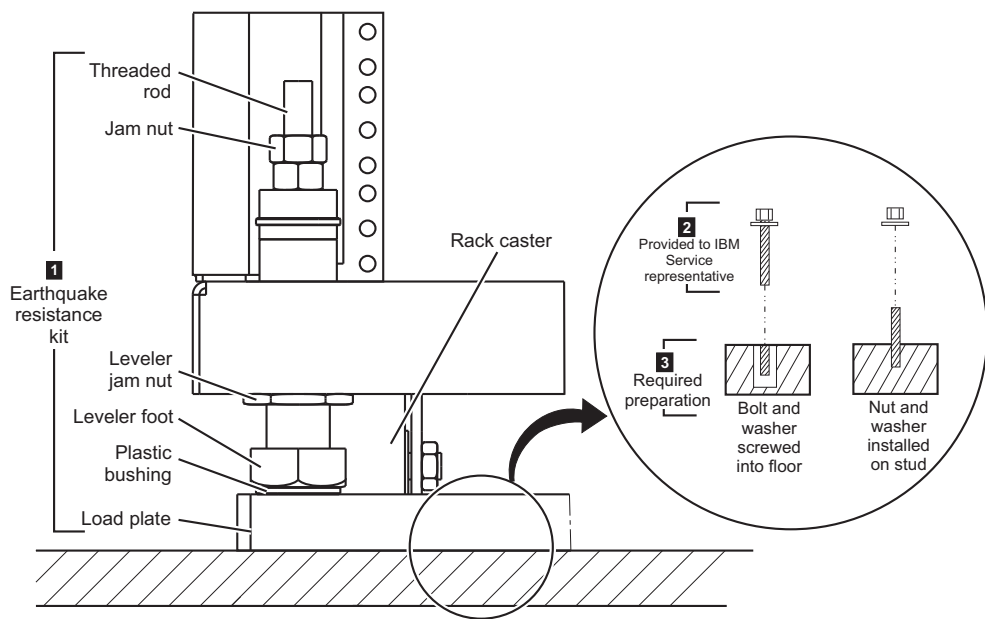

Figure 24. Earthquake resistance kit installed on a nonraised floor.
Figure 24 provides an illustration of the earthquake resistance kit (**1**) after the IBM service representative installs it on the nonraised floor.
Before the IBM service representative installs the kit, you must prepare the area that is shown as **2** in Figure 24. This figure shows two of the most common fasteners that you can use.
The following examples provide descriptions of nonraised floor fastener sets. Figure 24 illustrates the fastener sets.
3. When the IBM service representative arrives to install the earthquake resistance kit, provide the other fastener parts (**2**) in Figure 24 on page 152 so that the representative can use these parts secure the load plates onto the floor.